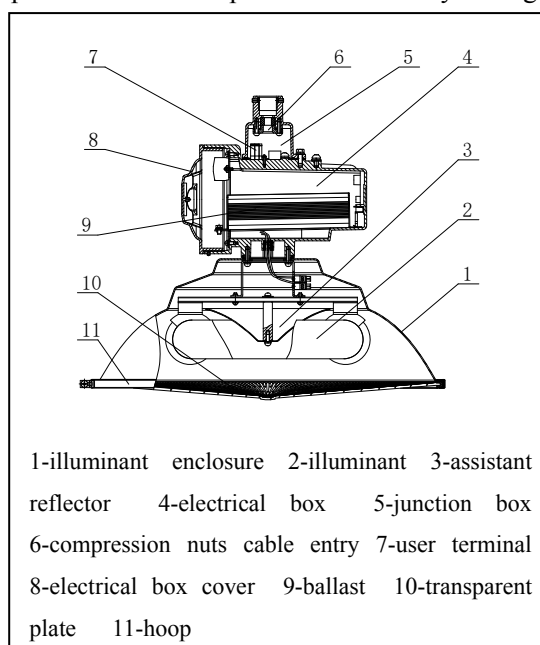

Figure2
2. The tensile strength of the aluminum alloy enclosure is no less than 120MPa and content of magnesium and titanium of the enclosure is no more than 7.5% of the total content, the enclosure is anti-corrosion. See Figure 2 for the light structure.
12. The light can be installed in pipe suspending type, ceiling type, wall mounting type, guard pole type and flange pole type. See Figure 2 for installation instructions.
12. Fix and connect junction chamber cover to the light according to the instruction (see Figure 1 and Figure 2)after the power cable connected. Do not neglect the sealing ring between them.(see Figure 10).